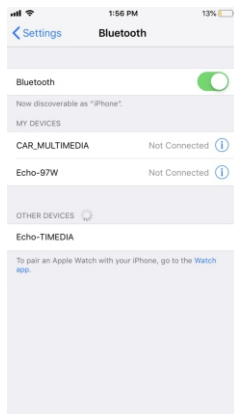

Figure 2
3. Enable Bluetooth on your smart phone or tablet. (As shown in **Figure 2**)